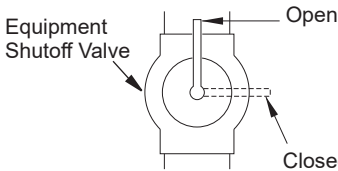

Figure 11 - Equipment Shutoff Valve
1. Close equipment shutoff valve (see Figure 11).
1. Open equipment shutoff valve (see Figure 11, page 12).